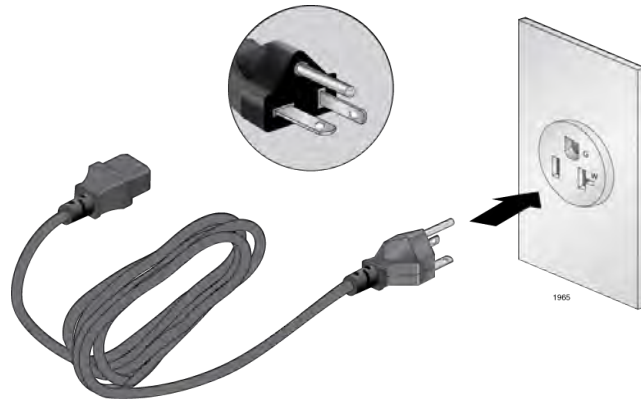

Figure 37. 100 - 125 VAC 125 V NEMA 5-20 Plug and Receptacle
- ☐ The power cords provided with the AT-SBxPWRSYS1 and AT-SBxPWRPOE1 Power Supplies for 100-125 VAC installations have 20 Amp, 125 V NEMA 5-20P plugs. The plugs are only compatible with NEMA 5-20R receptacles. See Figure 37 on page 107.